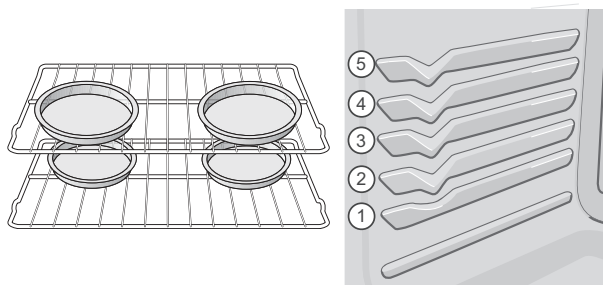

Figure 9: Pan spacing (L) and rack (R) positions
- When baking cakes or cookies using two oven racks, place cookware as shown in Figure 9 and place racks in rack positions 2 and 4.
1. Arrange the oven racks when cool. For optimum browning results, preheat oven for two minutes before adding food. If using multiple racks, arrange food on the racks as seen in Figure 9.